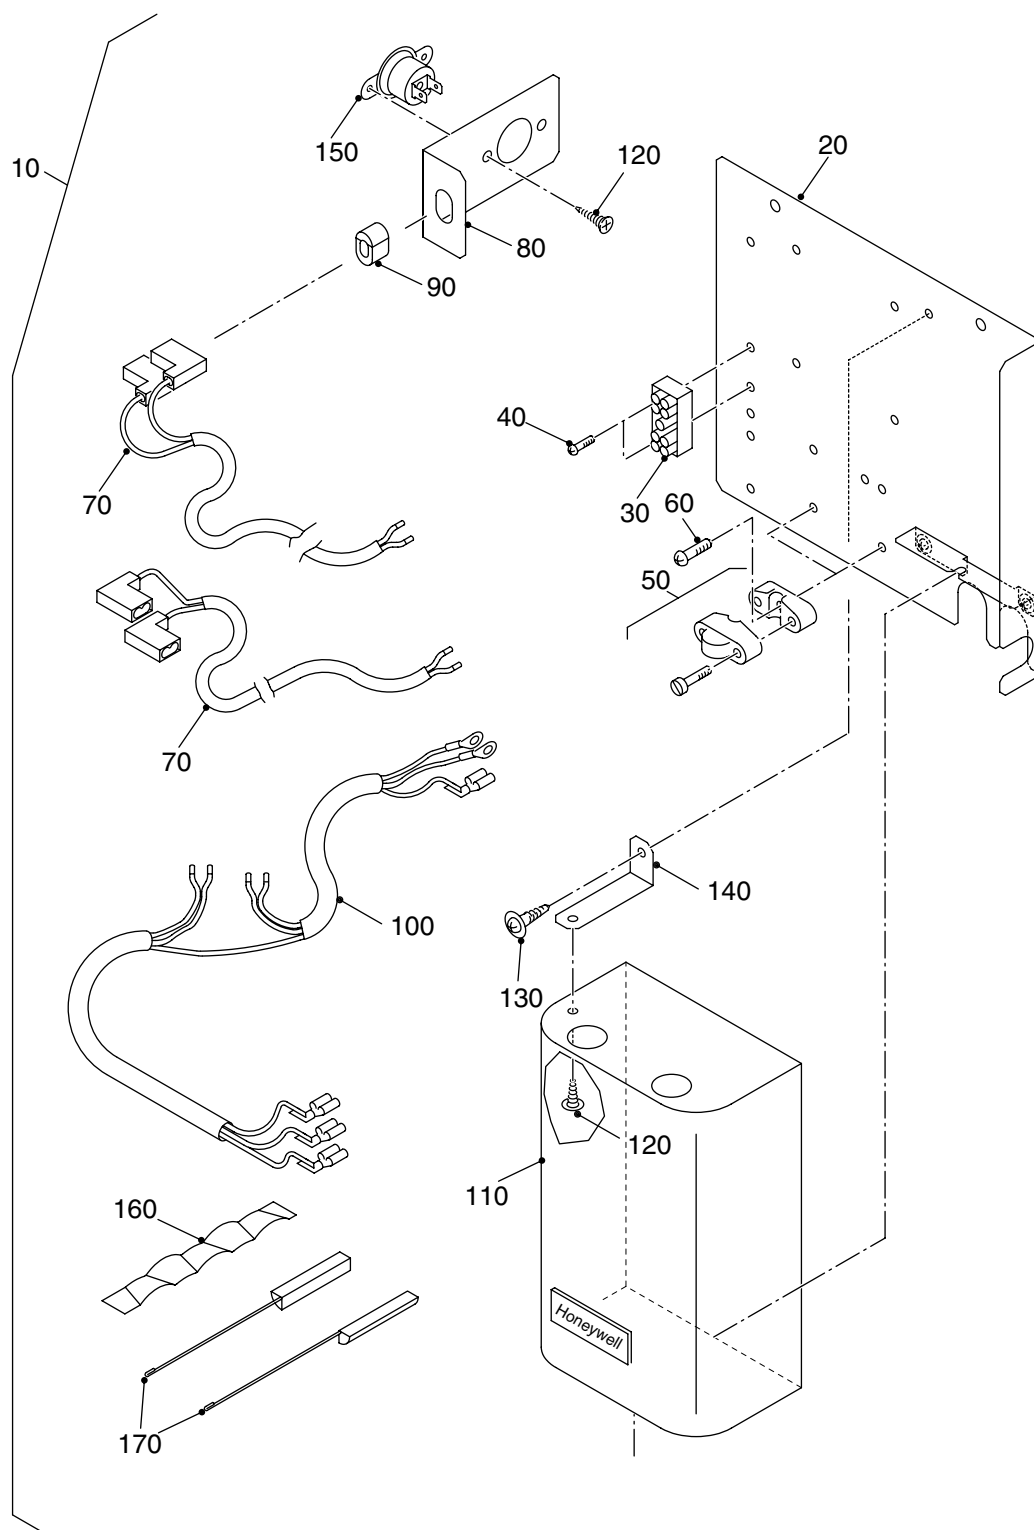

Fig. 53 Control panel assembly for G124X SP
**Control panel assembly for G124X SP (→ Fig. 53)**